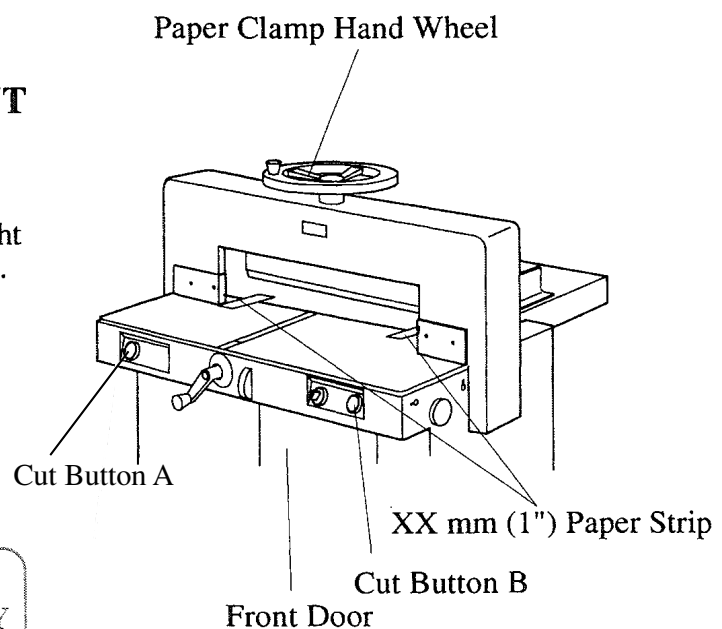
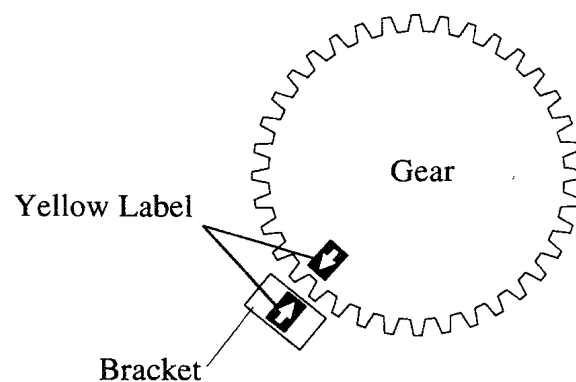

Fig. 5-1
Fig. 5-2
- Place two 30mm (1") strips of paper at right and left side of clamp opening over cut stick. (Fig. 5-1)
- Turn paper clamp hand wheel clockwise until clamp is fully down. (Fig. 5-1)
- Open front doors to be able to check yellow arrow on gear. (Fig. 5-1)
- Using cut buttons A and B (Fig. 5-1) bring knife down until arrow on large gear is in line with arrow or bracket. (Fig. 5-2)
- Test adjustment in automatic cutting mode with two 30 mm (1") strips of paper placed at right and left side of clamp opening over cut stick (Fig. 5-1).
- Test adjustment in automatic cutting mode with two 30mm (1") strips of paper at right and left side of clamp opening over cut stick. Readjust if necessary. (Fig. 5-1)